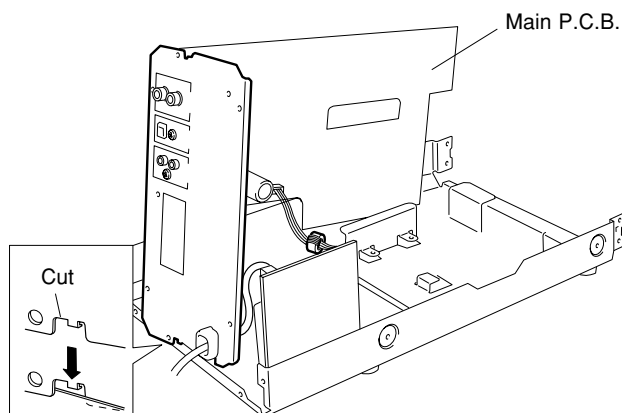

Fig. 4
- e. With the rear panel attached, set the Main P.C.B. on its side as shown in Fig. 4.
At this time, fit the cut in the rear panel with the main chassis as shown in Fig. 4.